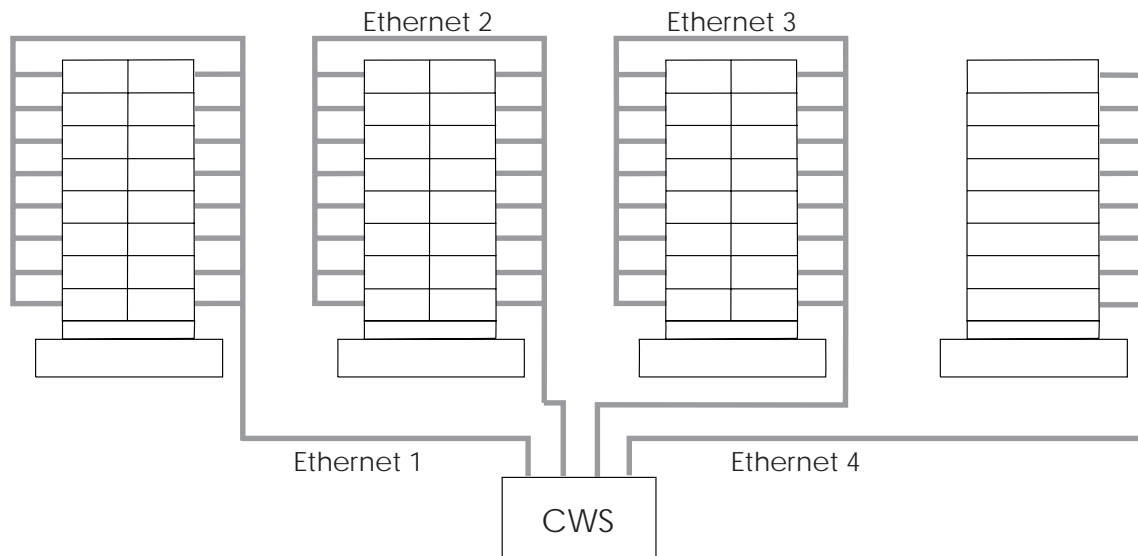

Figure 6. Method 1 Ethernet topology for a multiple-frame SP
1. The first method uses a control workstation with one Ethernet adapter for each frame of the system, and one associated SP Ethernet per frame. So, if you have a system with four frames as in Figure 6, the control workstation must have enough I/O slots for four Ethernet adapters, and each adapter connects one of the four SP frame Ethernet segments to the control workstation. Using this method, you install the first eight nodes on a frame at a time, or up to 32 nodes if you use all four Ethernet segments simultaneously. Running two installs will install up to 64 nodes. Figure 6 shows an Ethernet topology for this multiple-frame system.